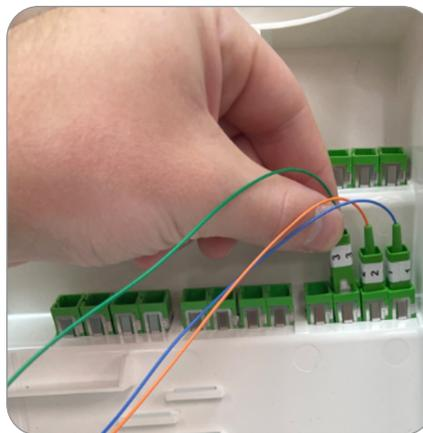

Figure 2
2. Insert the connectors into their respective adapters. It is recommended to insert the connectors in their numerical order to reduce tangling and unnecessary strain on the fibers (**Figure 2**).